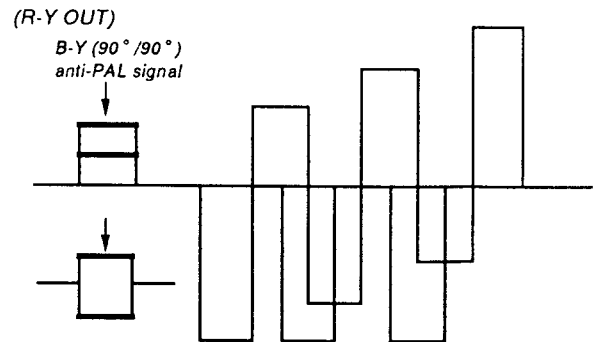

Fig. 16 \* Varies every H, although slightly, so adjust so that the average is 0.
- 4) Adjust [B-Y PHASE PAL] so that the B-Y anti-PAL signal waveform is 0. (Fig. 16)